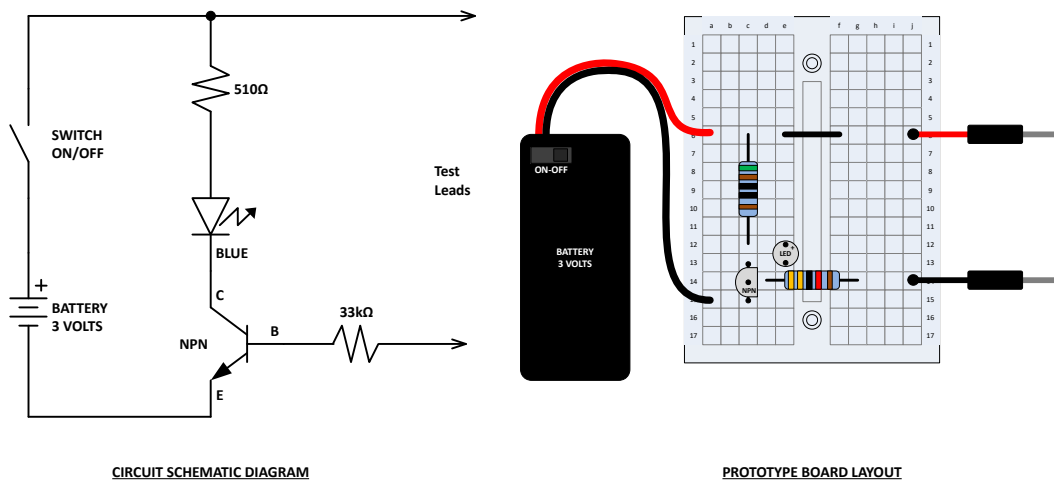
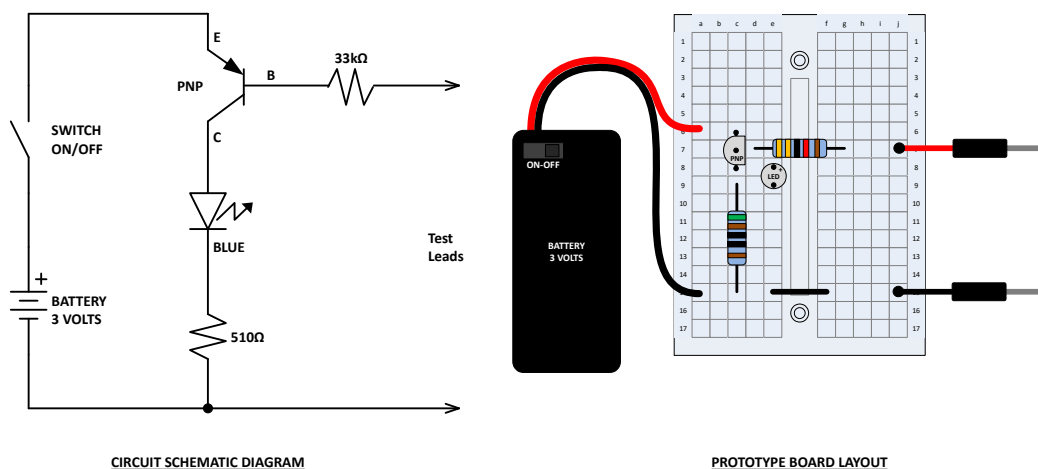

Figure 34: NPN Transistor Electrical Continuity Tester
Figure 35: PNP Transistor Electrical Continuity Tester
1. You need to build two simple circuits (see Figure 34 and Figure 35) with parts from our [SARCNET STEM Kit #1](https://www.sarcnet.org/SARCNET-STEM-Kit-1) - Electronics Prototyping Kit (see Figure 2), or you can purchase the following parts separately. Note: This is for one (1) circuit:
- NPN transistor circuit (Figure 34). When the battery switch is turned on and a small current flows into the base of the transistor, a larger current will flow through the LED, illuminating it. The small base current may be created by touching the test leads together or even just holding them between your fingers. The 510Ω resistor limits the LED current. The $33k\Omega$ resistor limits the Base current. If either resistor was replaced with a conductor, the LED or the transistor could be damaged. Be sure to get the students to draw their own circuit schematic diagrams.
- PNP transistor circuit (Figure 35). When the battery switch is turned on and a small current flows out of the base of the transistor, a larger current will flow through the LED, illuminating it. The small base current may be created by touching the test leads together or even just holding them between your fingers. The 510Ω resistor limits the LED current. The $33k\Omega$ resistor limits the Base current. If either resistor was replaced with a conductor, the LED or the transistor could be damaged. Be sure to get the students to draw their own circuit schematic diagrams.